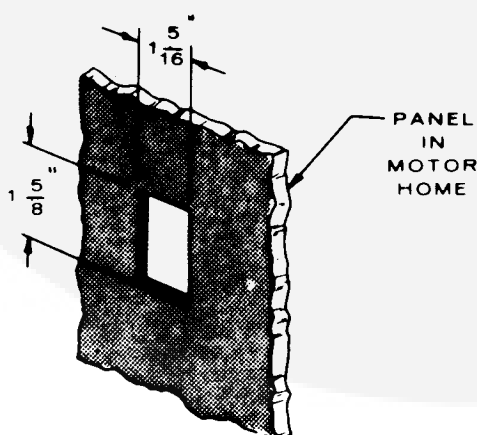

FIGURE 16. MOTOR HOME CUTOUT
1. Select control location. Using Figure 16 or 17 as a guide, drill screw holes and cut hole to accommodate remote switch in dash panel.